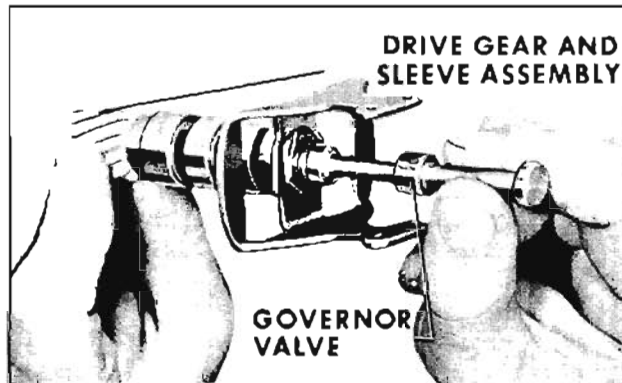

Fig. 6-376 Removing Governor Valve
5. Remove governor valve from drive gear and sleeve assembly. (Fig. 6-376)
1. Install governor valve into drive gear and sleeve assembly. (Fig. 6-376)